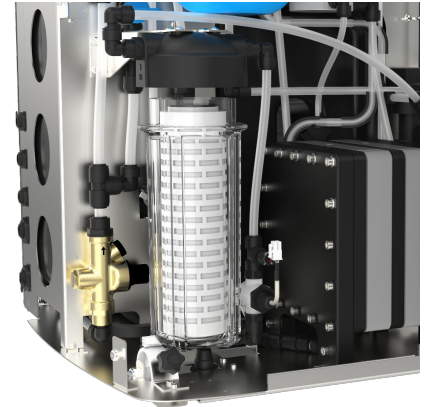

Fig 1
3. Using the tools provided in the installation kit, UNSCREW the filter bowl (Fig 1)